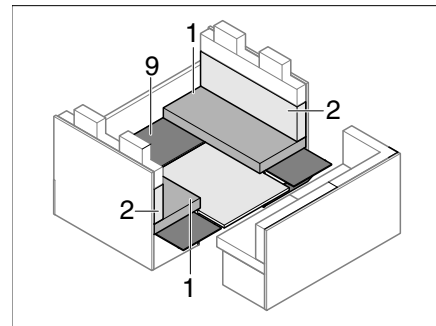

Fig. 200 During conversion
- Lay the base (Fig. 200,9) back on.